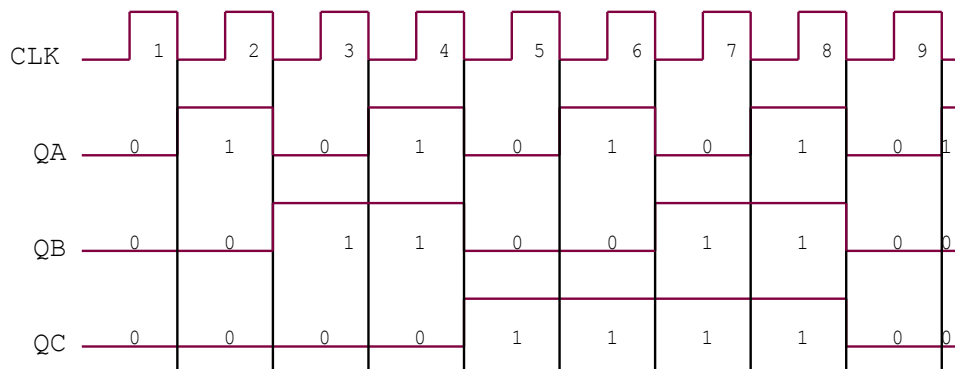

Figure 9.2: Timing Diagram of 3-bit Counter
3. Verify the count sequence as given in figure 9.2.